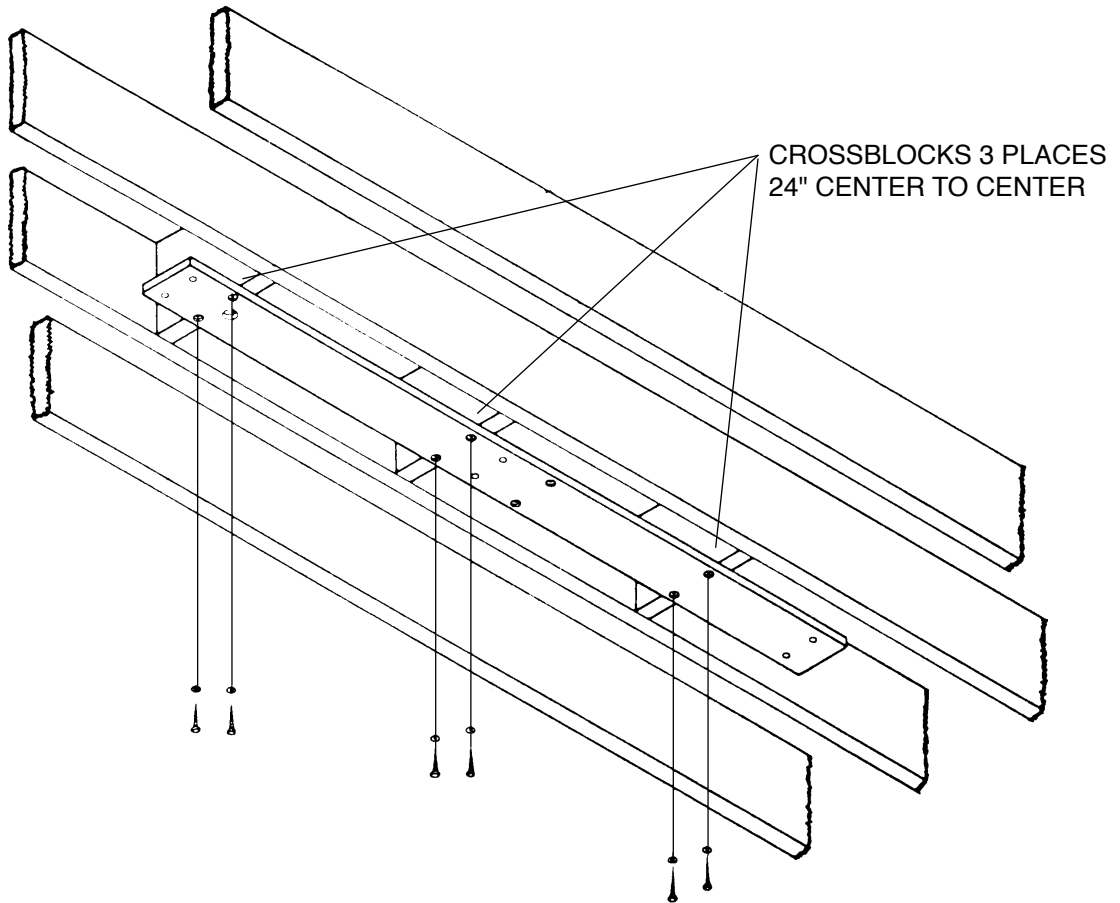

FIGURE 2 (1.1.2.)
1.1.2. For conventional ceilings with **joists parallel** to center line of light, cross blocks must be installed in 3 places to allow mounting with **at least 6 - 5/16 x 3" lag screws**. (SEE FIGURE 2.)